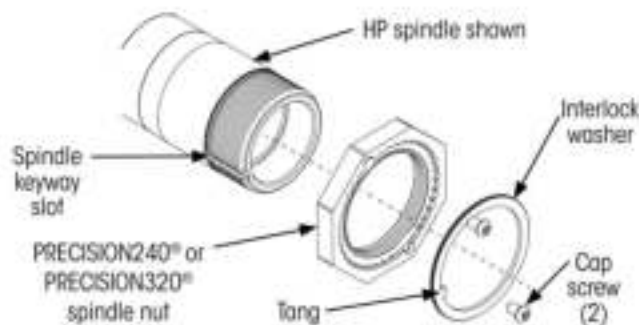
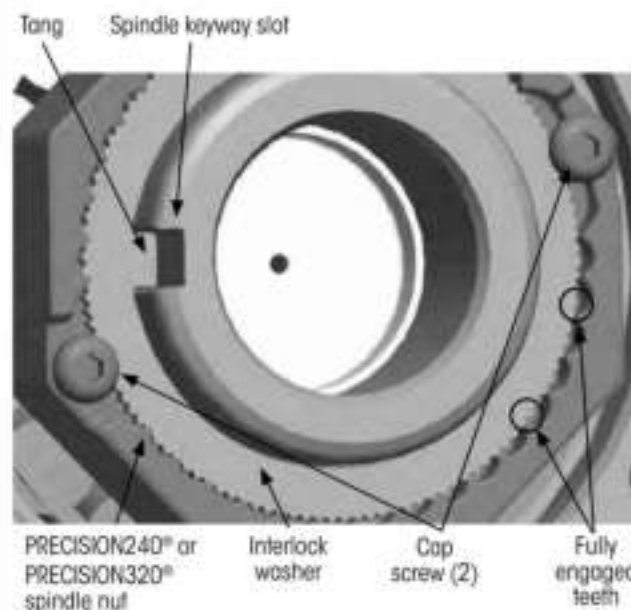

Figure 11: Precision spindle nut system components
Figure 13: Interlock washer and precision spindle nut fully engaged
1. Install precision spindle nut (Figure 11) onto the spindle, toothed side out, and hand-tighten.
9. Install interlock washer into the precision spindle nut with the tang aligned and inserted in the spindle keyway as shown in Figure 11 and Figure 13.
IMPORTANT: Teeth between the interlock washer and precision spindle nut must fully engaged as shown in Figure 13. **DO NOT ADJUST NUT TO ALIGN INTERLOCK WASHER**. Flip the washer over and reinstall.
10. Install two button-head cap screws (Figure 11) into the precision spindle nut until the heads of the screws just contact the face of the nut.
1. Ensure interlock washer is fully seated in PRECISION240® or PRECISION320® spindle nut (Figure 13).